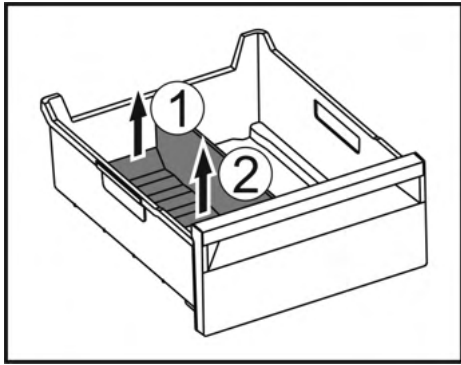

Fig. 155
- ▶ Lift the rear part of the ice compartment divider. Fig. 155 (1)
- ▶ Remove the ice compartment divider upwards. Fig. 155 (2)